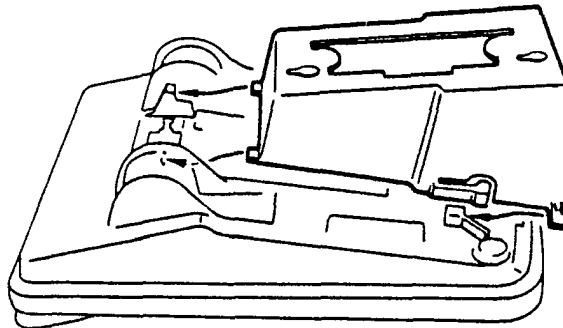

Figure 1-50 Mounting the Multiline Terminal to the WMU-W (BK) Unit
5. Mount the telephone onto the wall mounting unit by aligning the notches on the bottom of the Multiline Terminal with the rails on the wall mounting unit. [Refer to Figure 1-50 - Mounting the Multiline Terminal to the WMU-W (BK) Unit.]